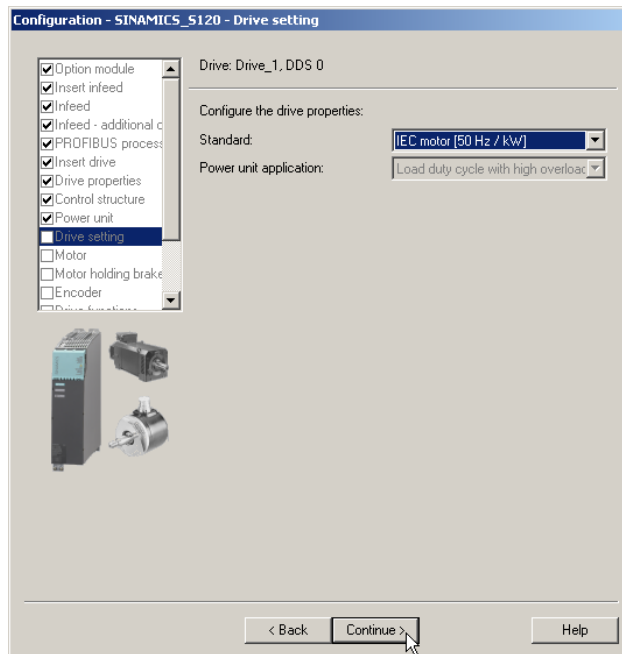

Fig. 3-24 Drive settings
The following dialog box (see Fig. 3-24) is displayed when you configure an induction motor with vector control.
16. Choose the "Standard" and the "Power unit application" as shown in Fig. 3-24 (the default setting can be left as it is).